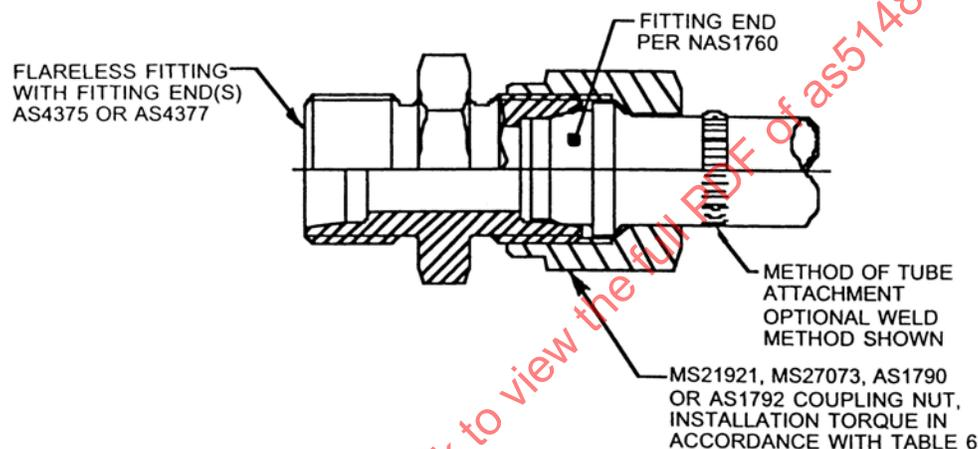

FIGURE 3 - Tube Assembly Incorporating Fitting With NAS1760 Fitting End
- 3.1.8 Installation of Tube Assembly Incorporating Component With NAS1760 Fitting End (Figure 3):